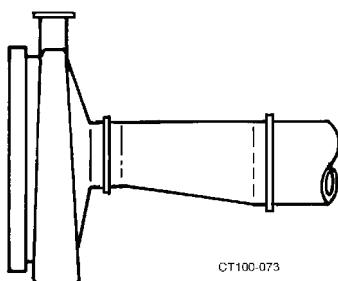

Figure 17 - Correct Eccentric Installation
9. If a reducer is connected to the inlet, use an eccentric-type reducer to prevent problems due to trapped air. See Figure 17.